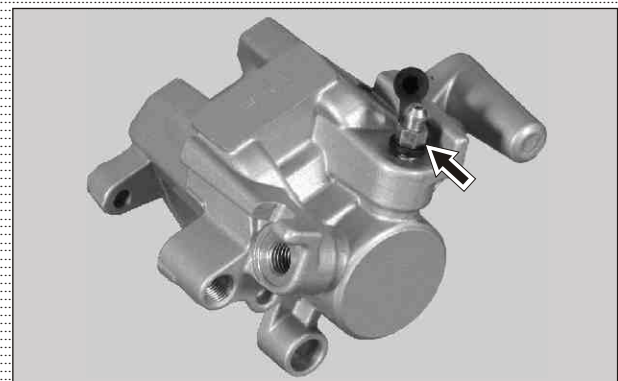

Fig. 6.106
- Unplug cap bleeder and remove bleeder screw. (Fig. 6.106)